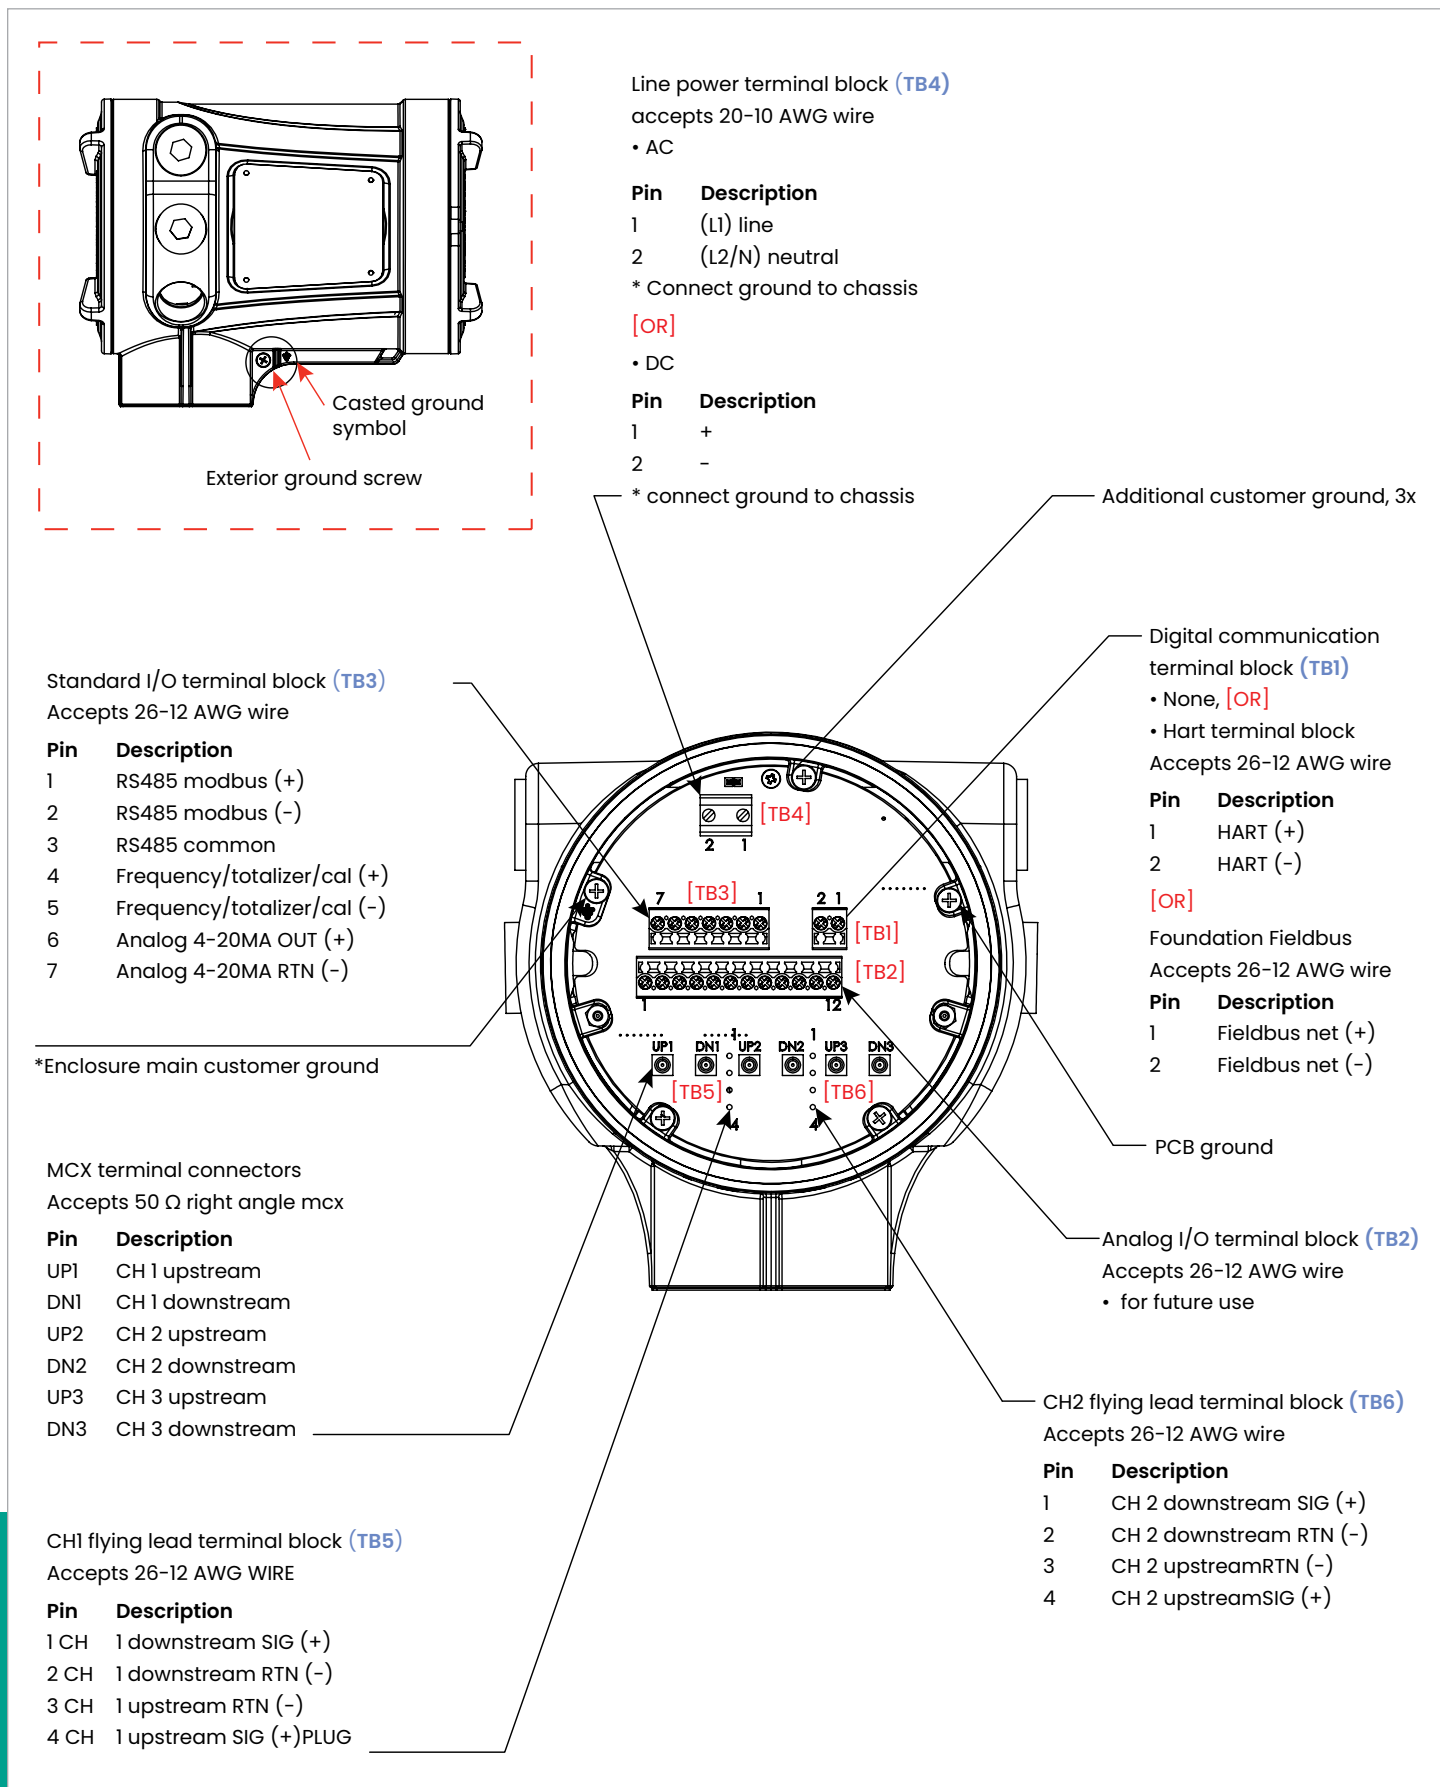
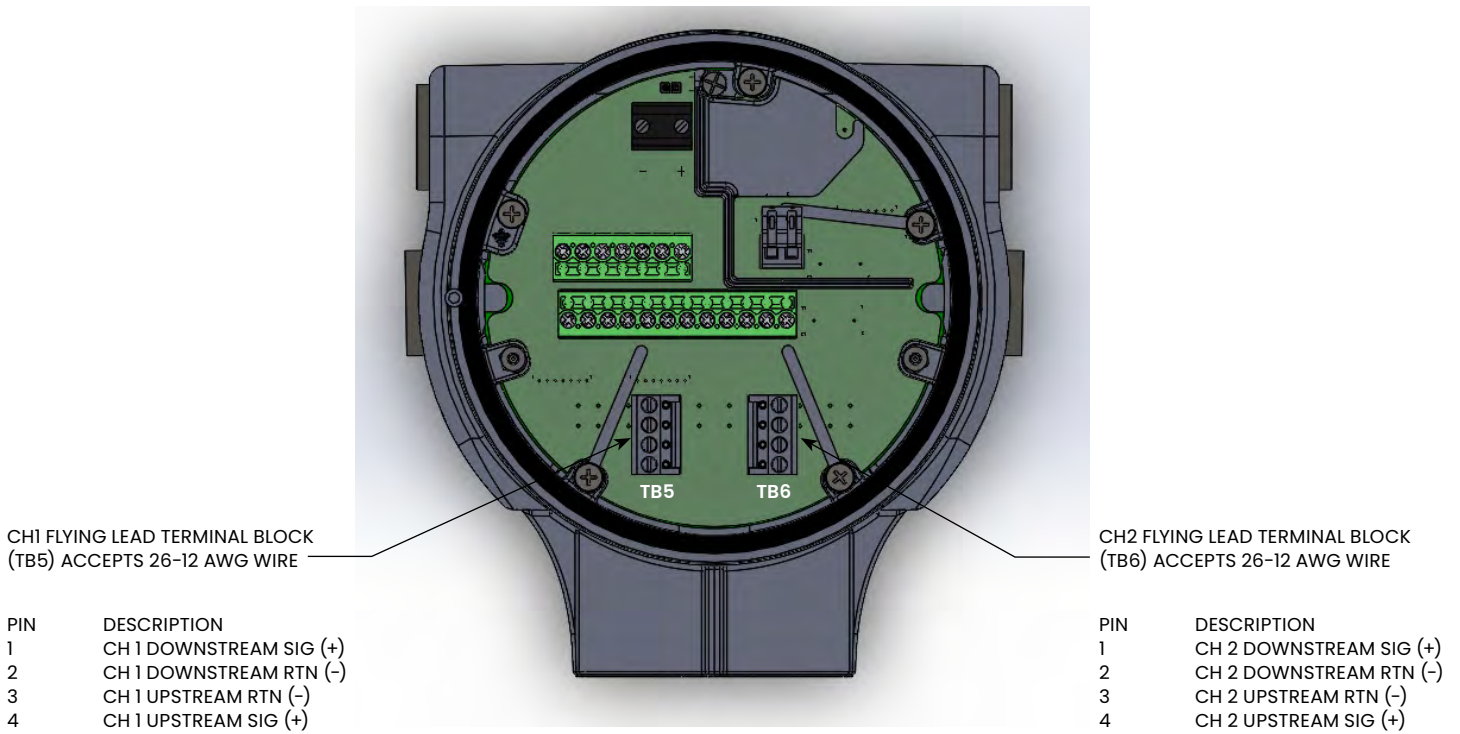

Figure 6: XMT1000 Terminal Board Wiring Diagram (ref. dwg. 702-2040)
Figure 7: XMT1000 Terminal Block 5 and 6 Wiring Diagram
This section contains instructions for making all the necessary electrical connections for the XMT1000 flow transmitter. Refer to *figure 6* for a complete wiring diagram.
WARNING!  Proper grounding of the XMT1000 enclosure via the external grounding screw on the enclosure (see figure 6 ) is required to prevent the possibility of electric shock. All ground screws should be hand tightened only, to a maximum allowable torque of 2.5 N-m (22 in-lb).
3. Refer to figure 6 on page 8 for the location of the terminal block and wire the analog output as shown. Secure the cable gland.
3. Refer to *figure 6* for the location of the terminal block and wire the digital output as shown. Secure the cable gland.
Wire this option in accordance with the connections shown on the label in the rear cover (see figure 6). Refer to Appendix A, specifications for the load and voltage requirements.
The XMT1000 flow transmitter is equipped with a calibration port specifically designed for calibrating the XMT1000. It is wired for a frequency output. To wire to this port, refer to figure 6 and complete the following steps:
To wire to this RS485 serial port, refer to figure 6 and complete the following steps:
Refer to Figure 6 on page 6 and Figure 7 on page 7 to locate the Channell and Channel 2 flying lead terminal blocks.
The display window on the XMT1000 includes the components shown in *figure 7* below.